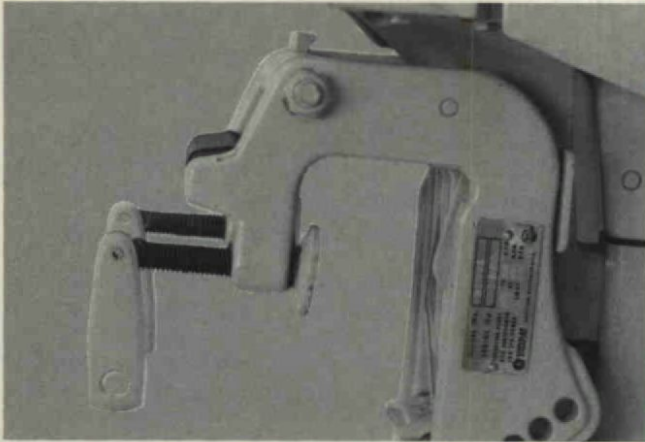

Figure 11. Replacing Clamp Screws.
A. Saw through clamp screw between stern bracket and foot. Figure 11.